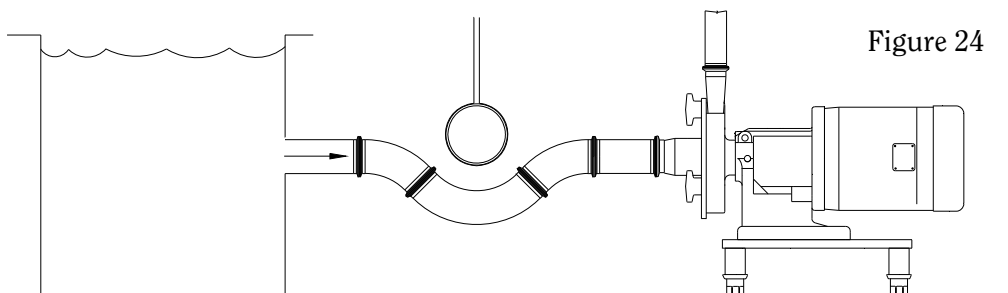

Figure 24
- Avoid sump areas where sediments may collect (**Figure 24**).